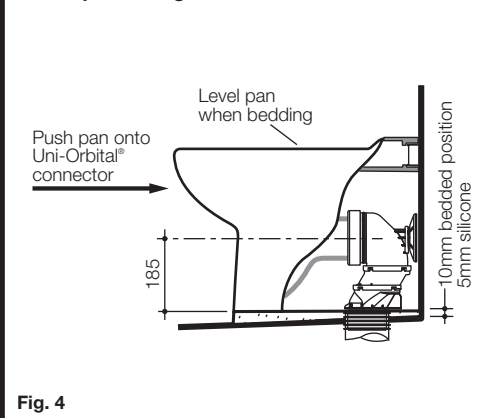

Fig. 4
- 5- Position and push pan into connector and flushpipe using the marked centre line on the wall as a guide and level pan into bedding mixture, so that the back of the foot of the pan is approximately 10mm above the finished floor as detailed in Fig. 4. It is recommended that wedges are used to support the foot of the pan during the positioning.